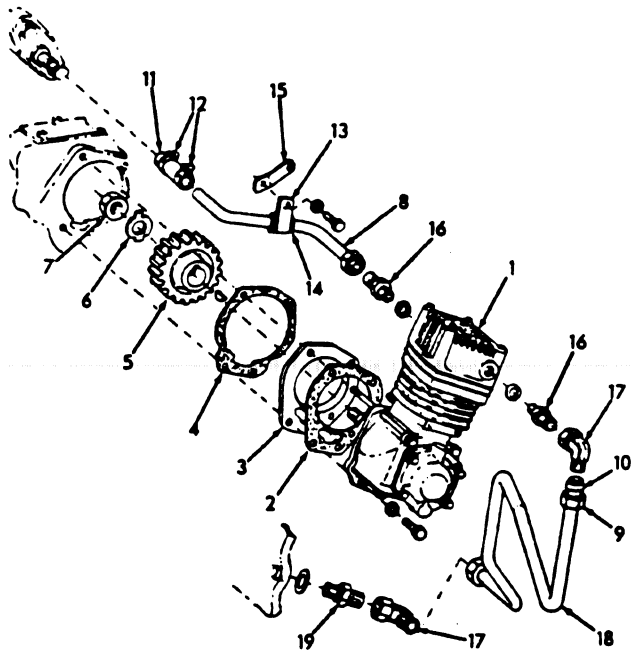

FIG.7 AIR COMPRESSOR T-84475
The flange mounted, reciprocation air compressor is a single cylinder and is gear driven, Fig.7(5). This compressor (MARELLI) has a capacity of 339.7 L (12.00 cu.ft) per minute.
The compressor block is air cooled and the head is water cooled. Water to cool the head is provided by an external tube, Fig. 7 (8) and hose (11) from the water manifold. The water is returned to the engine through another external tube(18).